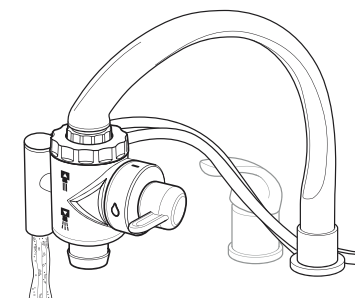

Figure 3.28 – Flowing Water Through Filter System
3. Leave water on and circulating through the filter system until the water runs clear. This usually takes about 15 minutes (see Figure 3.28). The initial flow of water may be slightly discolored and cloudy due to carbon particles and air bubbles. This is normal. The carbon particles will flush out of the filter during the 15-minute flush. The water from the flush should be discarded.